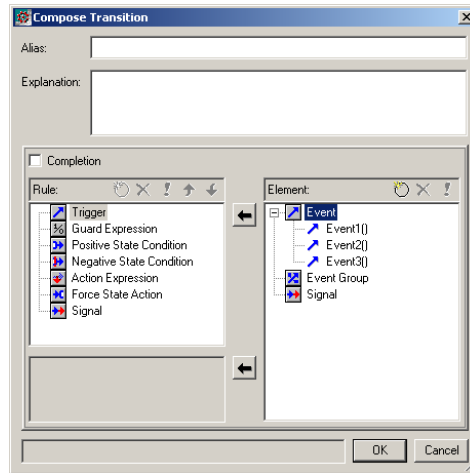

Figure 69: Compose Transition dialog box
- Click the transition, open the pop-up menu, and choose *Compose Transition*. A Compose Transition dialog box will be shown. See *Figure 69*, page 84.